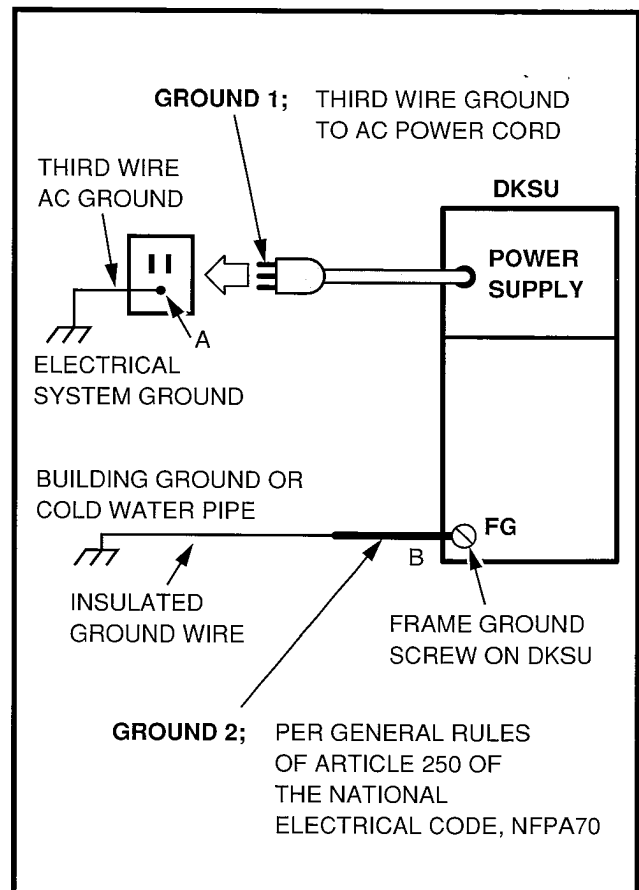

FIGURE 3-3 KSU GROUNDING DIAGRAM
7.00 In addition to the grounding provisions in Paragraph 5, the following grounding provisions must be adhered to (Figure 3-3):
- 1) Refer to Figure 3-3.